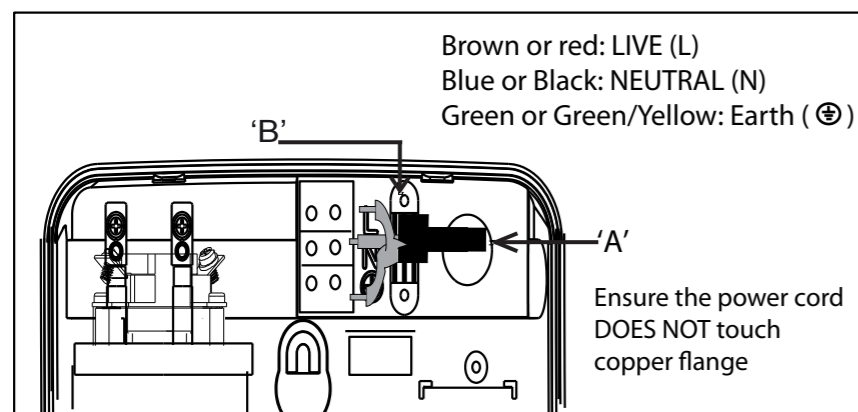

Fig. 7
5.6 Insert the wall embedded cable through Side Entry 'A' by cutting a hole at the source cord rubber holder and lead the cable to Cable Bracket 'B' (Fig. 7).